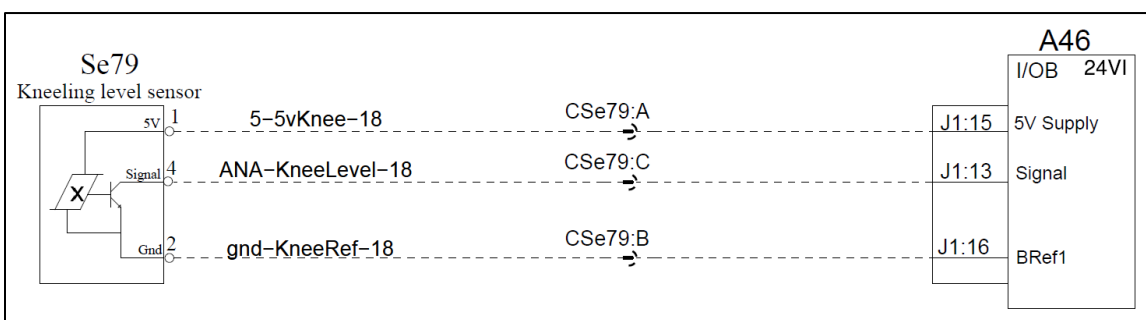

**FIGURE 46**
- 92. Secure the sensor wiring with cable ties as shown in Figure 46.